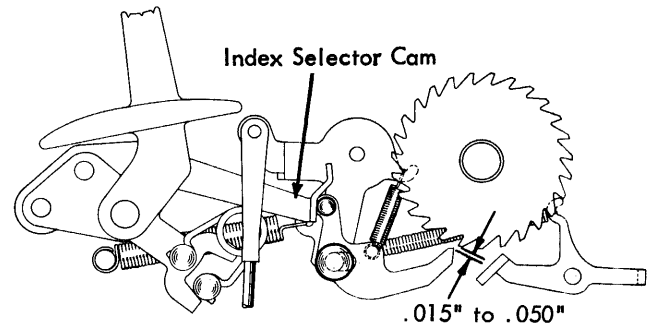

FIGURE 220. Index Selection Cam Adjustment
- a. With the index cam latched at rest and the selection lever in the double line space position, adjust the selection cam front to rear so that the index pawl clears the platen ratchet by .015" to .050" (Fig. 220).